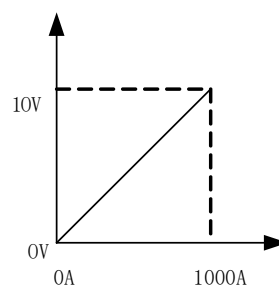

Figure 4-5 Signal equivalent circuit
1. The corresponding relationship between actual displayed current value of welding machine and analog output current value of welding machine, as shown in Figure 4-5;